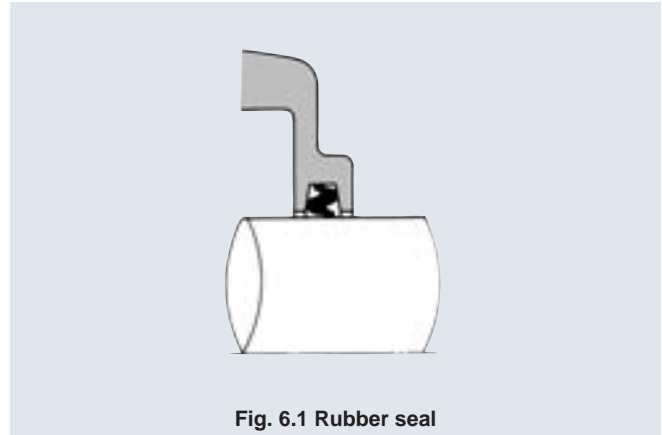

Fig. 6.1 Rubber seal
#### (1) Rubber seal (Fig. 6.1)